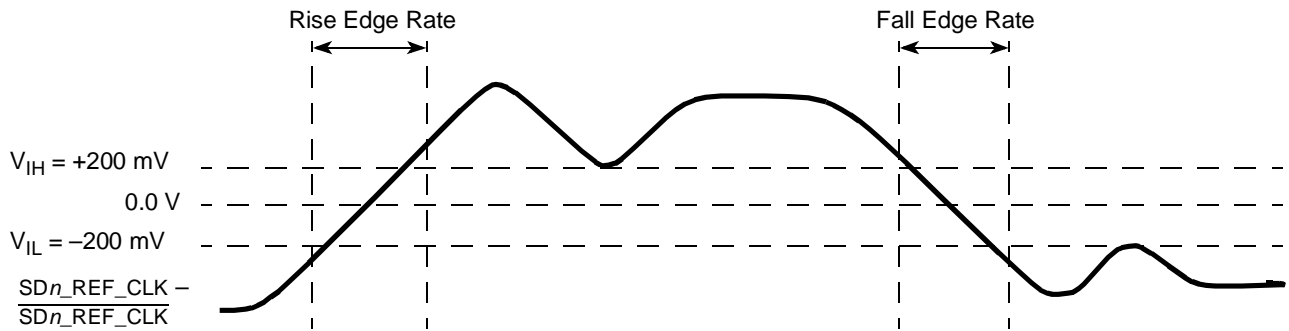

Figure 50. Differential Measurement Points for Rise and Fall Time
3. Measured from -200 mV to +200 mV on the differential waveform (derived from  $\overline{\text{SDn\_REF\_CLK}}$  minus  $\text{SDn\_REF\_CLK}$ ). The signal must be monotonic through the measurement region for rise and fall time. The 400 mV measurement window is centered on the differential zero crossing. See Figure 50.